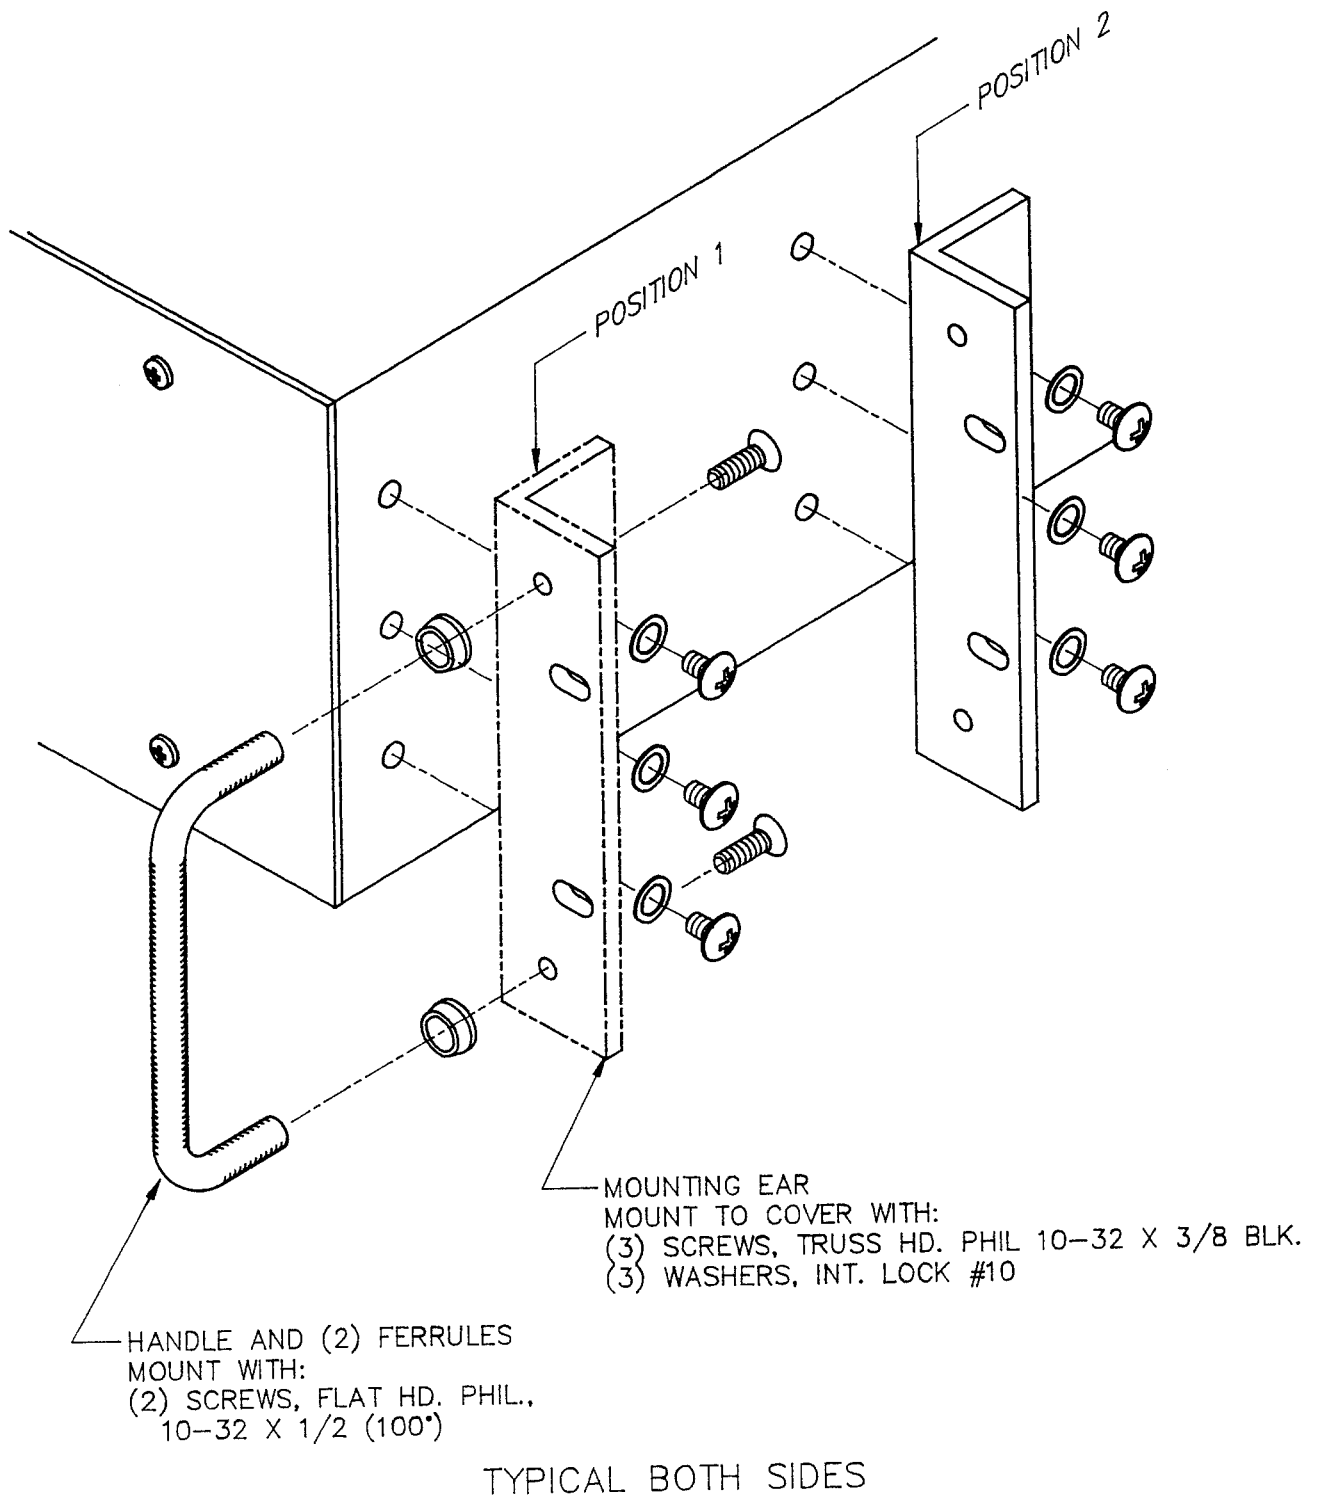

FIGURE 2-5 RACK MOUNTING OF THE TBC BATTERY CHARGER
The mounting flanges (Ears) for mounting the TBC Battery Charger in a Rack can be installed in either position 1 or position 2 with three screws (Truss Head Phillips 10-32 x 3/8 Black); and three Internal Locking washers, No. 10 (see Figure 2-5). Position 1 is for regular front panel rack mounting, and position 2 is for rack mounting with part [5 inches (127)] of the TBC Battery Charger extended beyond the front of the rack. Install one mounting Ear on each side of the TBC unit.
The Handles can be set in place using two Ferrule Mounts and two screws, Flat Head 10-32 x 1/2 (100 degrees countersink) as illustrated (see Figure 2-5)